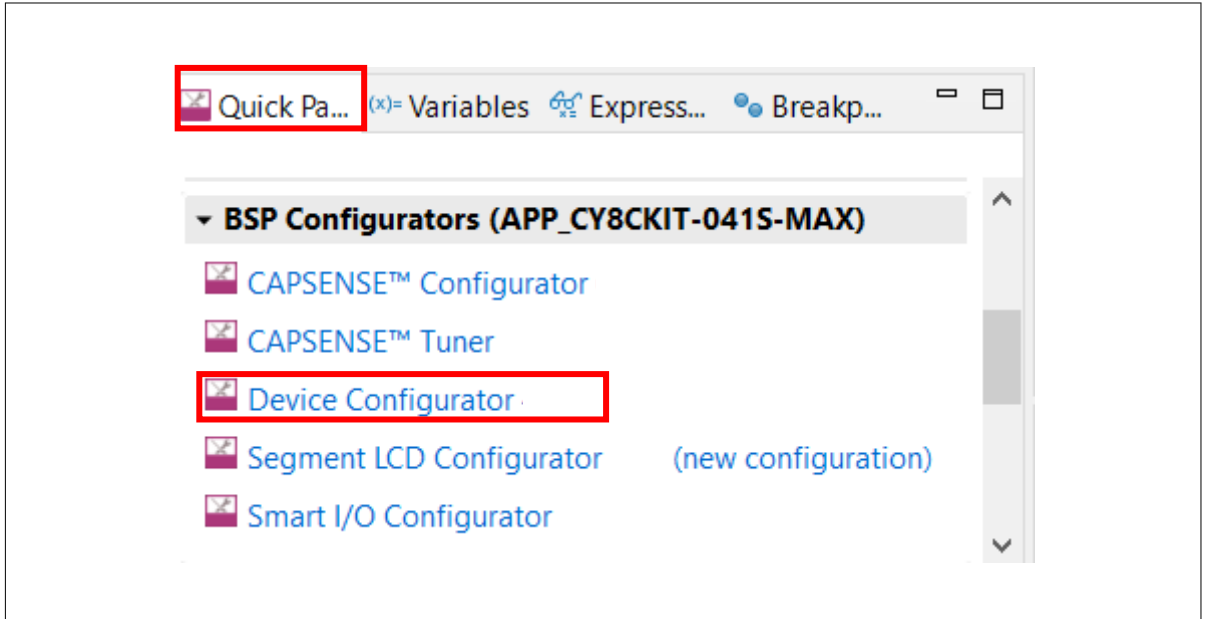
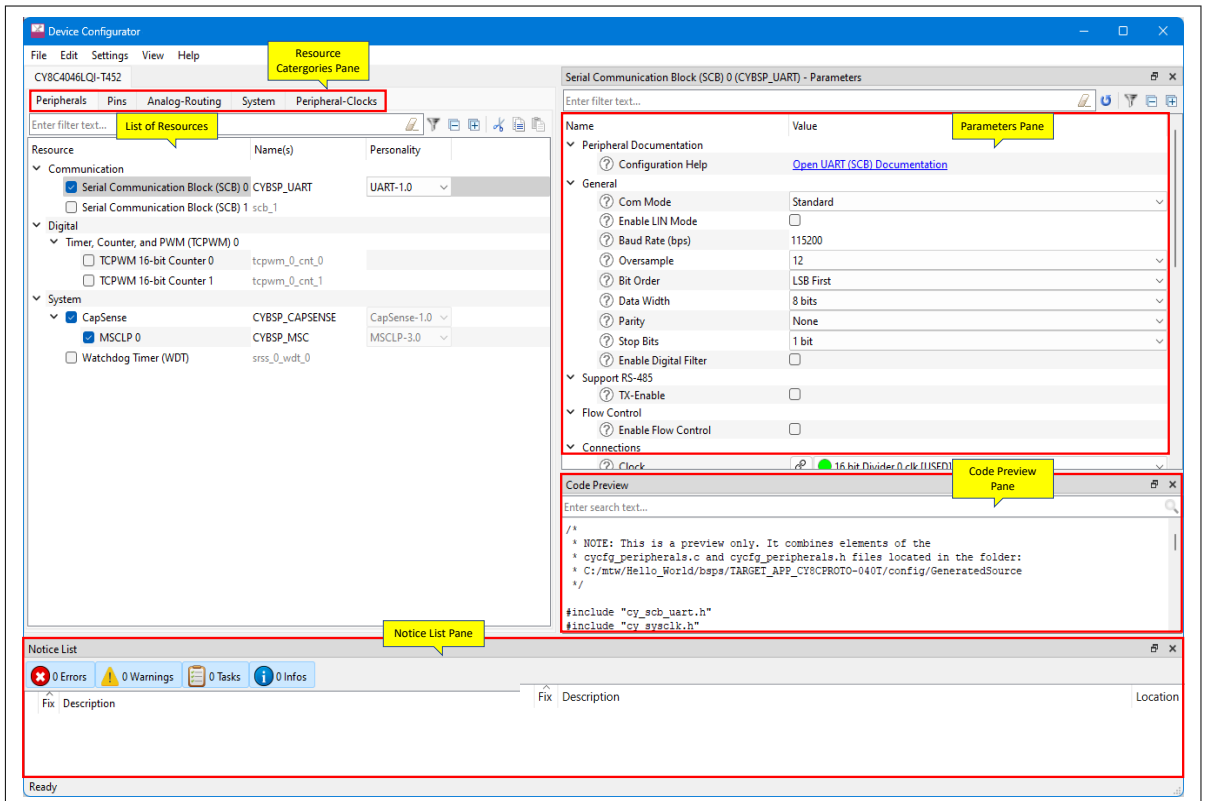

Figure 17 Opening the Device Configurator
Figure 18 Overview of design.modus
- As shown in Figure 17, click **Device configurator** in the **Quick Panel** under the **BSP Configurators** section. This opens the Device Configurator dialog (Figure 18). You can also open the other configurators and configure as required.